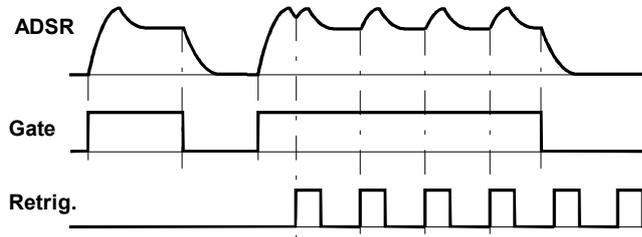

Fig. 2: Envelope re-trigger system
② Retrigger.
Socket ② is the ADSR's **retrigger input**, which can be connected, for instance, to the output from an LFO. That means that *while the gate is open*, the envelope re-triggers every time it senses a pulse from the LFO (see Fig. 2).